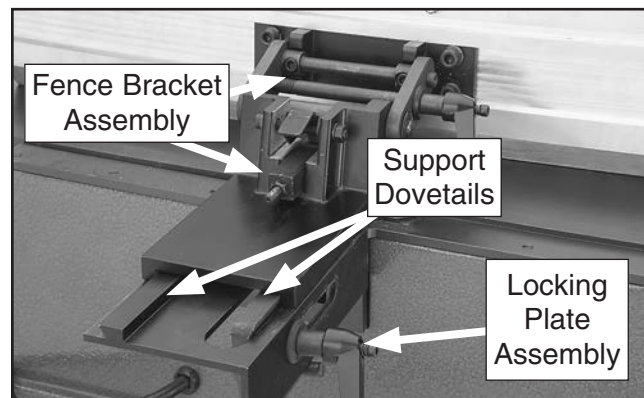

Figure 14. Fence assembly on support dovetails.
6. Slide fence bracket assembly onto support dovetails and locking plate assembly, as shown in **Figure 14**.